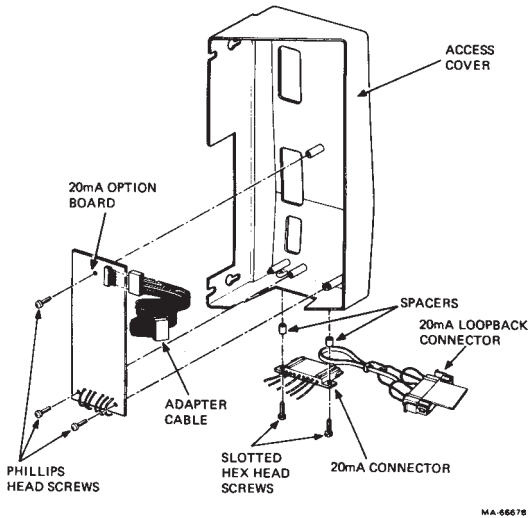

Figure 2-6 20 mA Current Loop Option Removal
2. Remove the two slotted hex head screws holding the Mate-N-Lok connector to the bottom of the access cover (Figure 2-6).
3. Remove the three Phillips head screws holding the 20 mA board to the access cover. Remove the board (Figure 2-6).